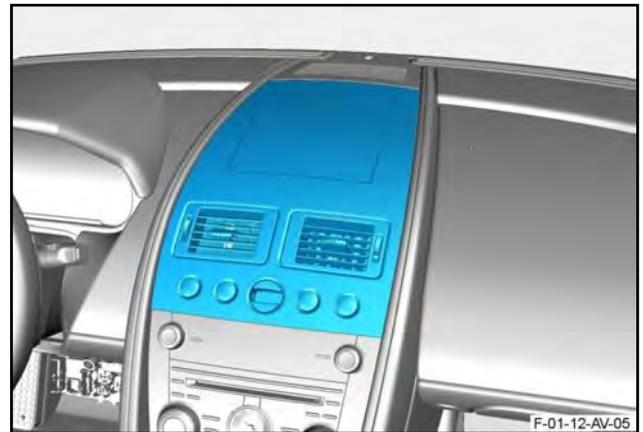

Figure 32
41. Remove the veneer bezel (refer to Figure 32).